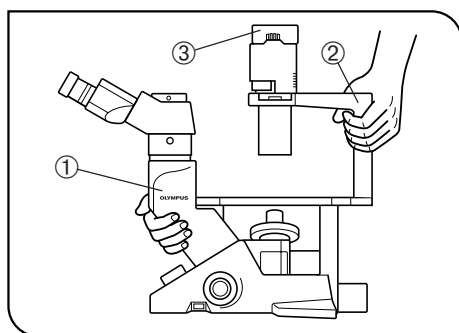

Fig. 1
3. When transporting the microscope, be sure to keep it horizontal by holding it by the root of the observation tube relay tube ① and the illumination column ②. (Fig. 1)
5. The surfaces of the lamp socket ③ of the illumination column will become extremely hot during operation. When installing the microscope, make sure to allow ample free space around and in particular above the lamp socket. (Fig. 1)
6. To avoid potential shock hazards and burns when replacing the light bulb, set the main switch ④ to "○" (OFF) then disconnect the power cord from the wall outlet in advance. Whenever you replace the bulb during use or right after use, allow the lamp socket ③ and bulb to cool before touching. (Figs. 1 & 2)